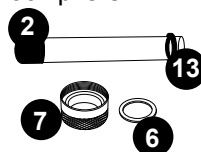

Figure 6
- Remove the quartz seal compression nut (7) by turning it **counterclockwise**, Figure 3. Use a pair of channel-lock pliers if needed, Figure 5. You will notice that there is a stainless steel compression washer (6) that slides over the quartz tube. Save the washer (6) for later use, Figure 6. There is also a black seal ring (13), grasp the black seal ring (13), slowly and carefully remove the quartz tube.
- Now you are ready to clean or replace the quartz tube (2). For the cleaning of the quartz tube (2), follow steps 8 and 9 then proceed to step 10. For replacing of the quartz tube (2), skip steps 8 and 9 and proceed to step 10.